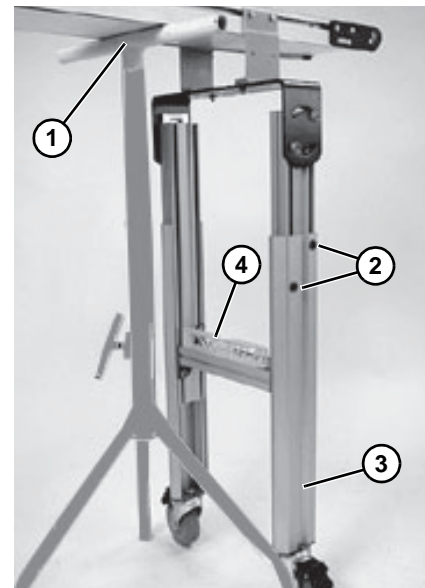

Figure 47
1. Using a support (**Figure 47, item 1**), raise conveyor and stand off the floor.
2. Loosen button screws (**Figure 47, item 2**).
3. Raise or lower stand leg (**Figure 47, item 3**) to the required height. Level stand from side to side using a level (**Figure 47, item 4**).
| Failure to secure screws ( Figure 47, item 2 ) may cause conveyor sections to drop down causing severe injury.TIGHTEN SCREWS (Figure 47, item 2) AFTER ADJUSTMENT. |
4. Tighten button screws (**Figure 47, item 2**) to 150 in-lb (17 N-m).